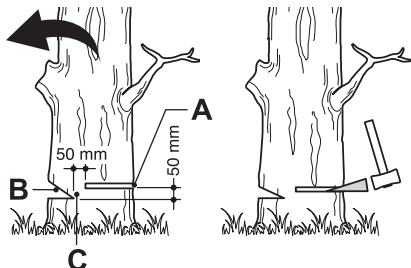

Fig.30
Make the notch (Fig. 30, B) 1/3 the diameter of the tree, perpendicular to the direction of falls (Fig. 30). Make the lower horizontal notching cut first. This will help to avoid pinching either the saw chain or the guide bar when the second notch is being made.
1. Make the felling back cut (Fig. 30, A) at least 50 mm higher than the horizontal notching cut (Fig. 30). Keep the felling back cut parallel to the horizontal notching cut. Make the felling back cut so enough wood is left to act as a hinge. The hinge (Fig. 30, C) wood keeps the tree from twisting and falling in the wrong direction. Do not cut through the hinge.